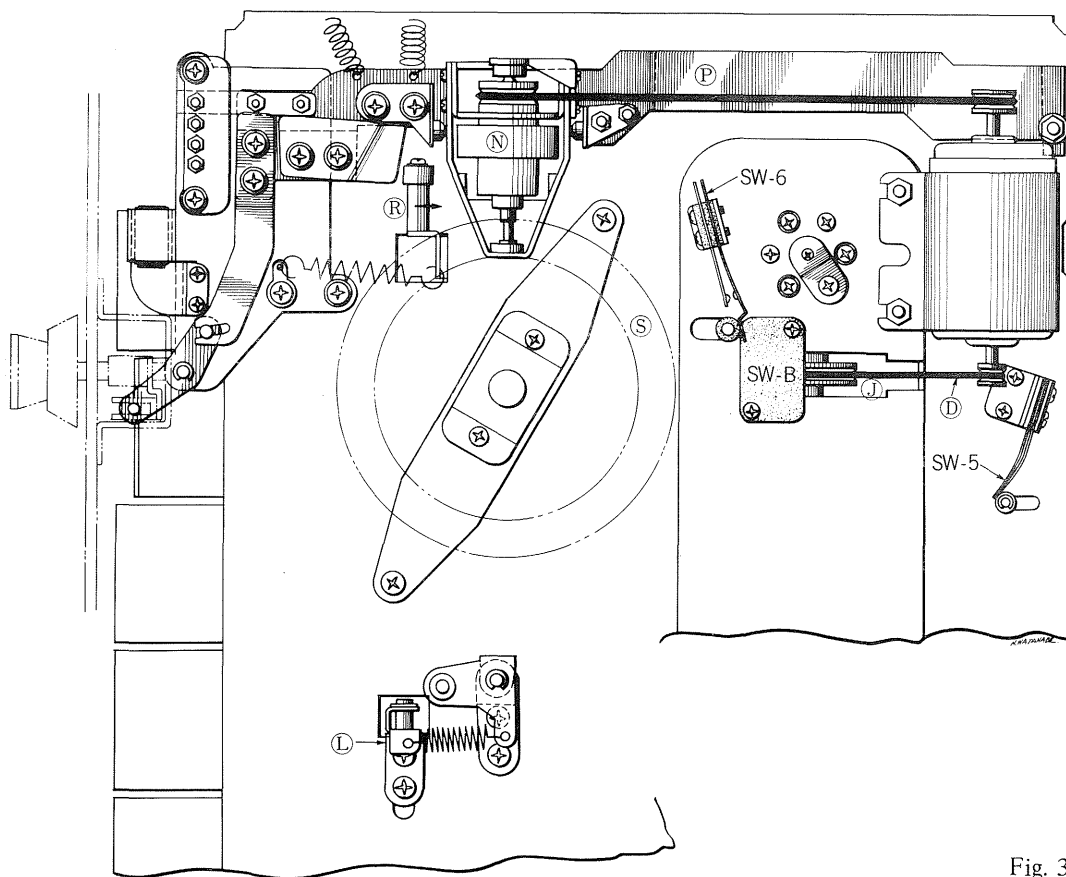

Fig. 3
As shown in Fig. 2, when Start Key (A) is pressed, all levers from (B) through (K), illustrated in yellow diagram, operate almost simultaneously. The Pin located on the tip of Lever (G) pushes SW-5 as shown in Fig. 3, causing the motor to rotate. Motor rotation is transferred to Pulley (J) by means of the Drive Belt. When Lever (I) of Take-up Reel Spindle is pushed in the arrow marked direction by Lever (E), it engages the Inner Wheel of Take-up Reel Spindle which is then pressed downward
During other operation, the Pin on Lever (F) sets SW-6 to the "open" condition, as shown in Fig. 3, and pushes SW-8 (a microswitch). As this time, when switch SW-7, which is linked with Volume Control, is set to "ON", current flows to the amplifier through SW-7 & 8 from Battery or AC power source. When Lever (E) is operated as shown by the arrow marked direction in Fig. 2, Lever (R) operates as shown by the arrow mark in Fig. 3 so that Lever (P) is disengaged from "lock" position.